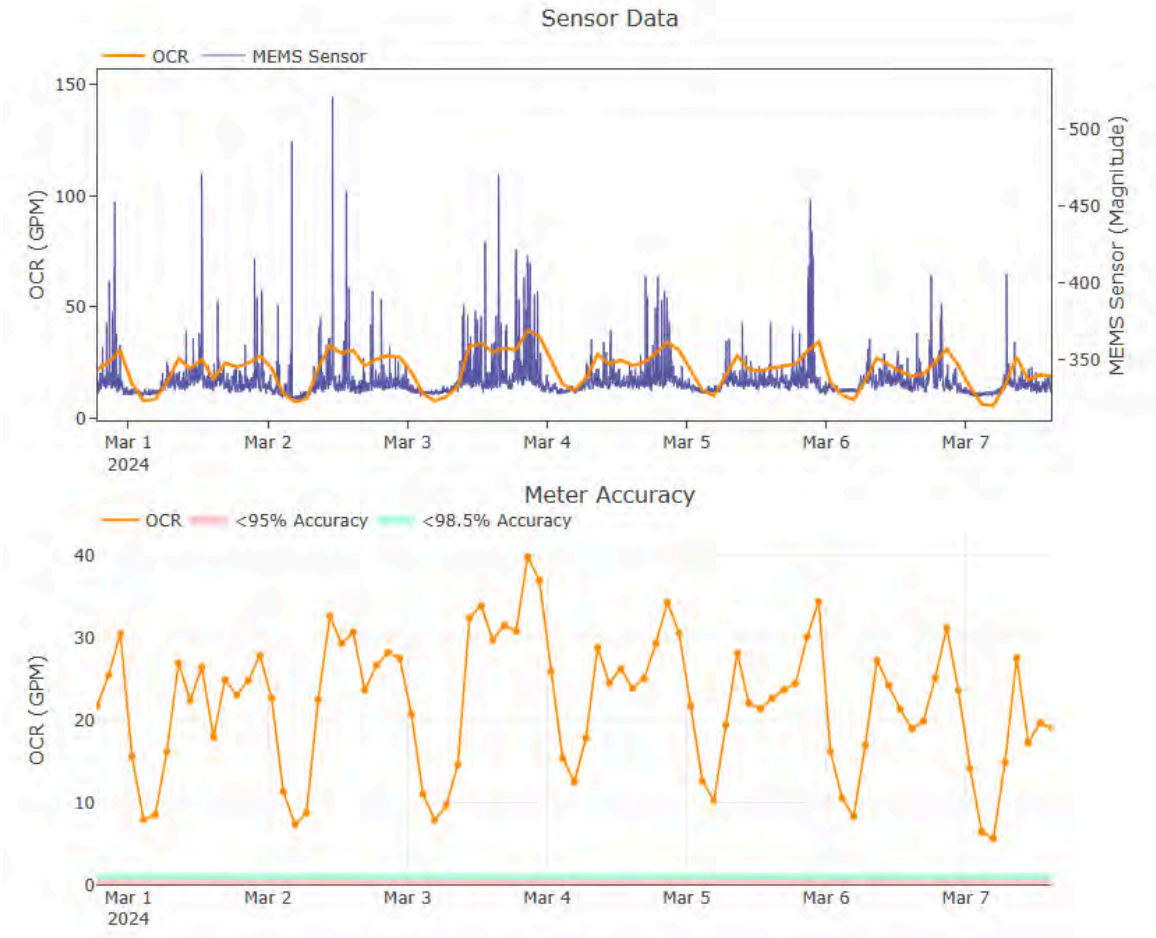

Figure 41 - Post repair 'No Problem Found' meter
- This compound meter (Figure 41), previously had an early crossover valve malfunction error. Fullerton staff have completely replaced the Hershey meter with a Sensus meter, and Olea's MHA technology has identified this meter as 'No Problem Found'.